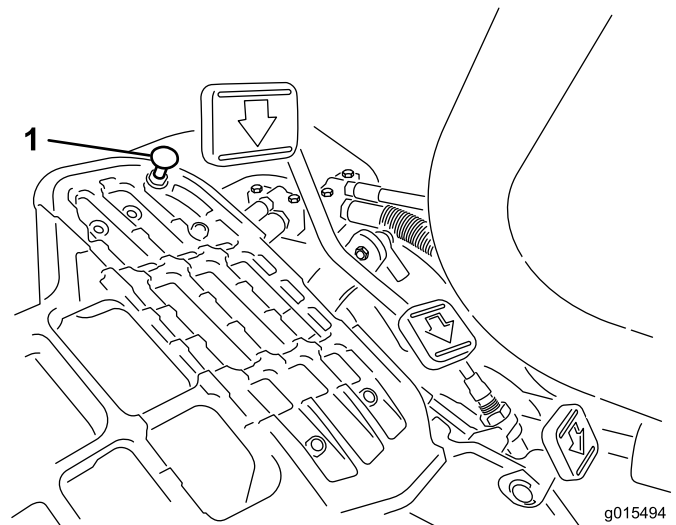

Figure 49
To obtain maximum transport speed, put the functional control lever in the transport position and press down on the traction pedal. If the pedal contacts the stop (Figure 49) before tension is felt on the cable, an adjustment is required:
1. Put the functional control lever in the transport position and loosen the locknut securing the pedal stop to the floor plate (Figure 49).